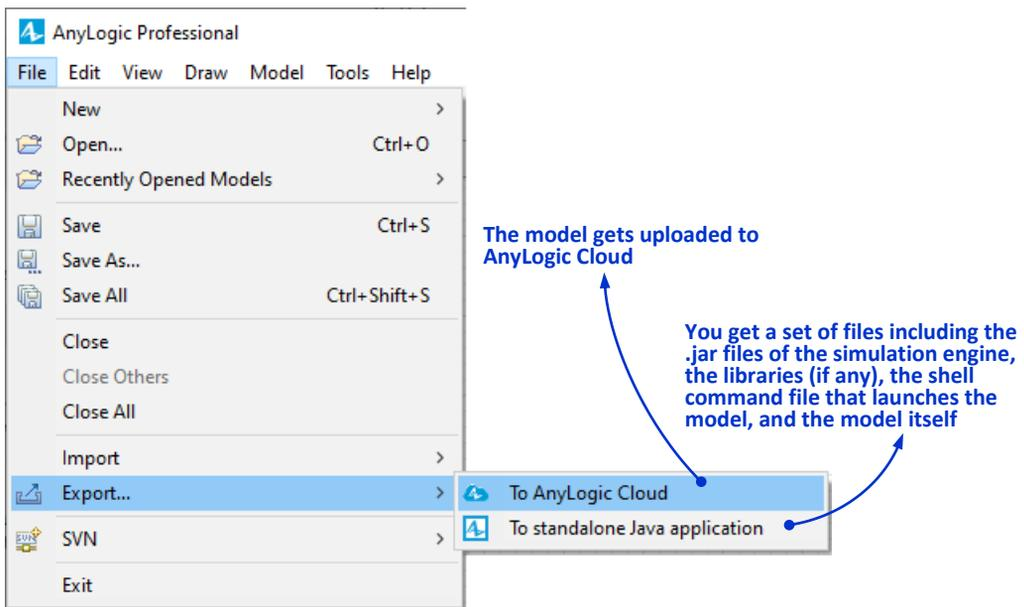

Figure 5.25 AnyLogic model export options
1. Go to the **File** menu and select the **Export... | To AnyLogic Cloud** option as displayed in Figure 5.25 to open the model export wizard.